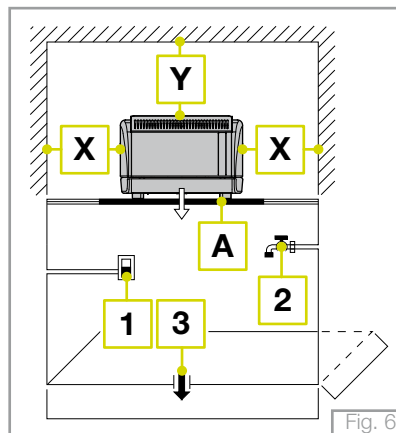

Fig. 6
- a) Open the water supply valve as envisaged in the preparations for installation (**See Fig. 6 on page 12 - Ref. 2**).